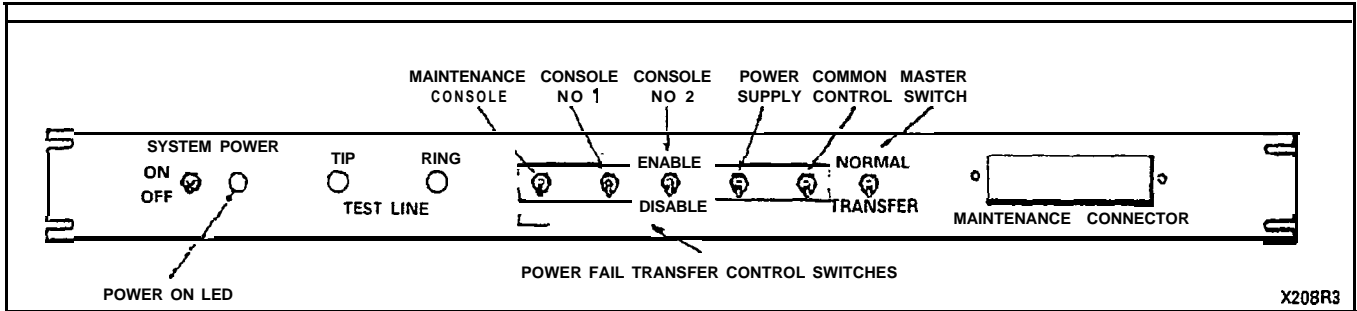

Figure 2-4 Maintenance Panel
2.20 At the top of the equipment cabinet is the maintenance panel (Figure 2-4). This panel provides the service personnel with access to the system through the maintenance console connector and test line terminals. Also housed on the maintenance panel are the